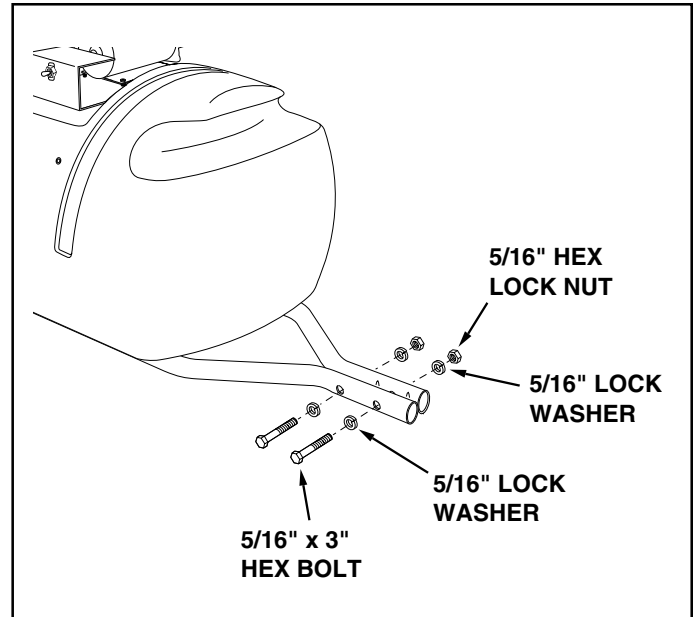

FIGURE 3
4. Fasten the hitch tubes together at the front using two 5/16" x 3" hex bolts, four 5/16" lock washers and two 5/16" hex lock nuts. **Do not tighten yet.** See figure 3.
**Tighten** the two bolts which fasten the front of the hitch tubes together. See figure 3.